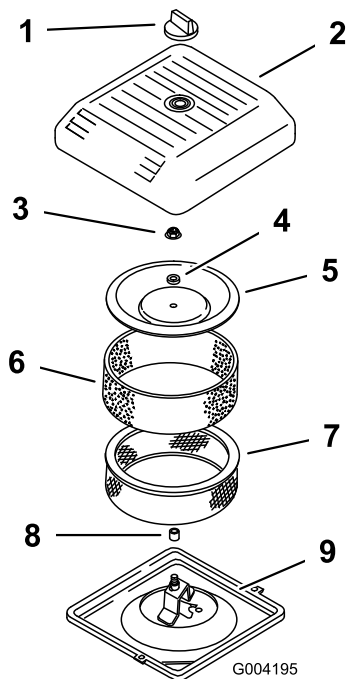

Figure 39
3. Unscrew the knob and remove the air-cleaner cover (Figure 39).
4. Carefully slide the foam pre-filter off the paper element (Figure 39).
5. Unscrew the cover nut and remove the cover, spacer, and paper filter (Figure 39).
2. Place the air cleaner assembly onto the air cleaner base (Figure 39).
3. Install the cover, spacer and secure it with the cover nut (Figure 39). Torque the nut to 11 N·m (95 in-lb).
4. Install the air cleaner cover and secure with the knob (Figure 39).